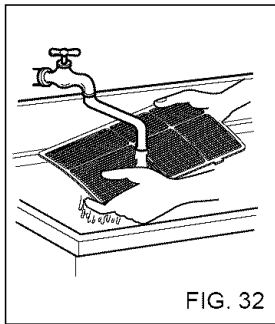

FIG. 32
- Wash the Air Filter under the faucet with warm water. Be sure to shake off all the water before replacing the filter. (FIG. 32)